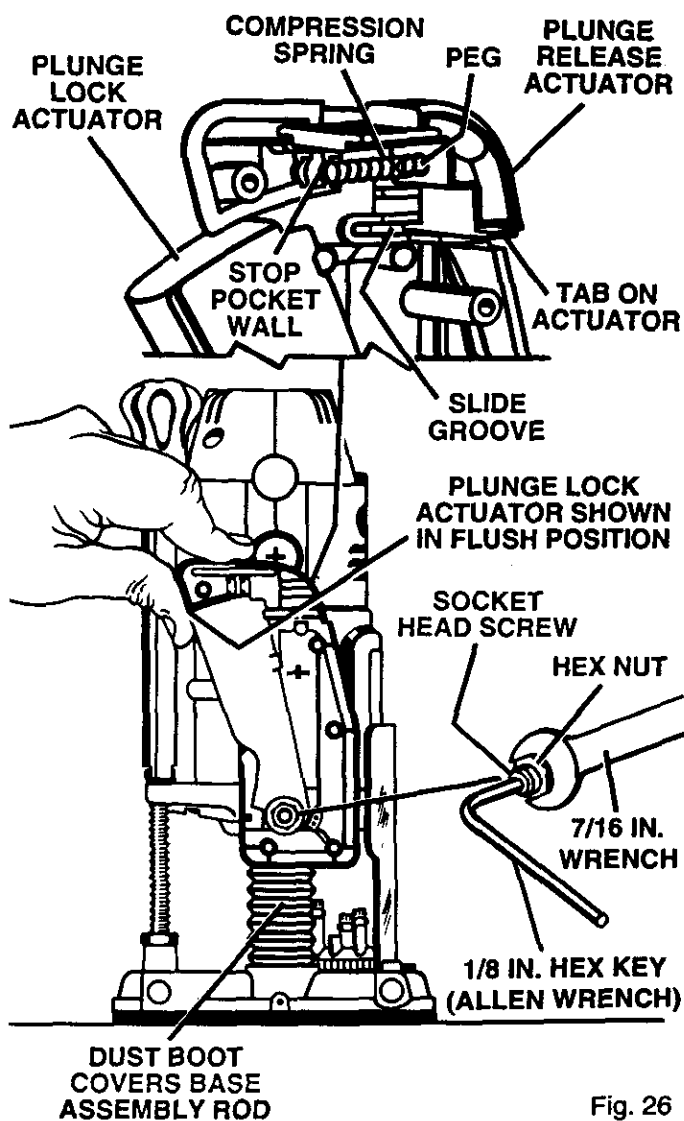

Fig. 26
- Depress plunge lock actuator until it is flush with handle as shown in figure 26.